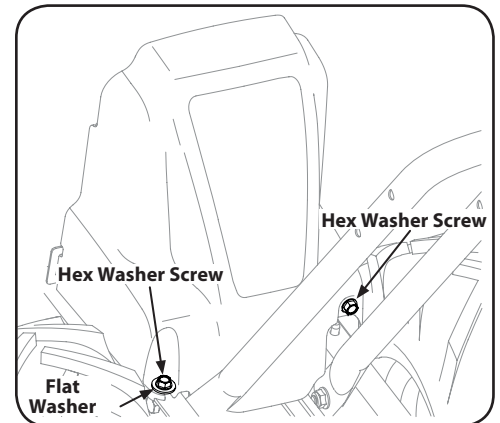

Figure 4-4
- Remove the hex washer screw ($\frac{1}{4}$ -20 x .500) and flat washer (.28 x .74 x .500) from the left side of the belt cover (if so equipped) and the hex washer screw ($\frac{1}{4}$ -20 x .500) from the right side of the belt cover. Remove the belt cover. See Figure 4-4.